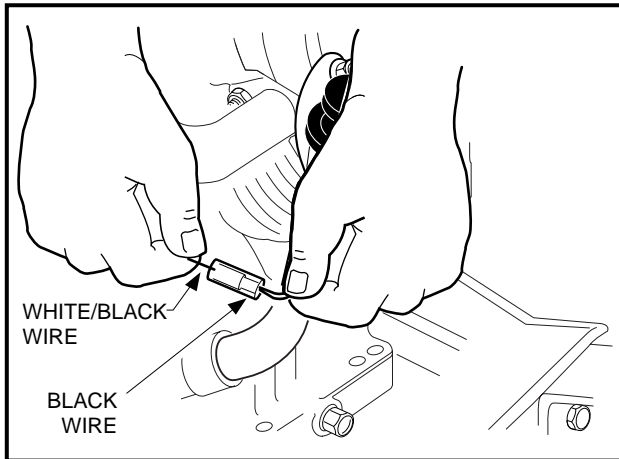

Figure 16-18 Ignition Kill Wire
- 3.10. Disconnect the engine kill switch wire (18 gauge white/black stripe) from the bullet connector at the lower right front of the engine (**Figure 16-18, Page 16-10**).